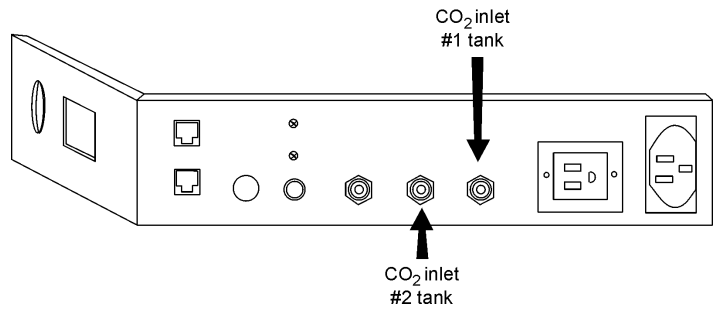

Figure 6-7, CO₂ fittings
a. Connecting the CO₂ Gas Supplies (refer to Figures 6-7 and 6-9):